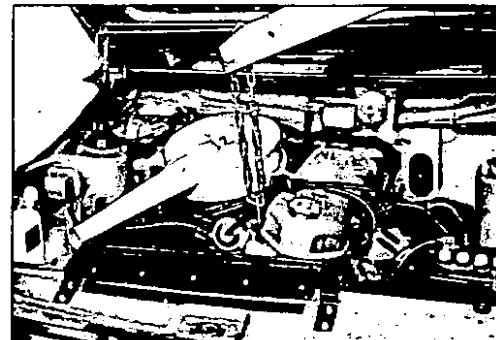

Fig.C.11 Supporting the engine
4. Support the engine with a hoist as shown in Fig.C.11, taking care not to damage the throttle and remote control linkages, and then remove the engine mounting bolts at both sides.